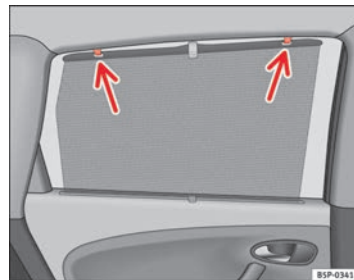

Fig. 85 Rear door sun visor
- Pull out the visor and hook it onto the hooks at the top of the door frame ⇒ page 129, fig. 85. ■